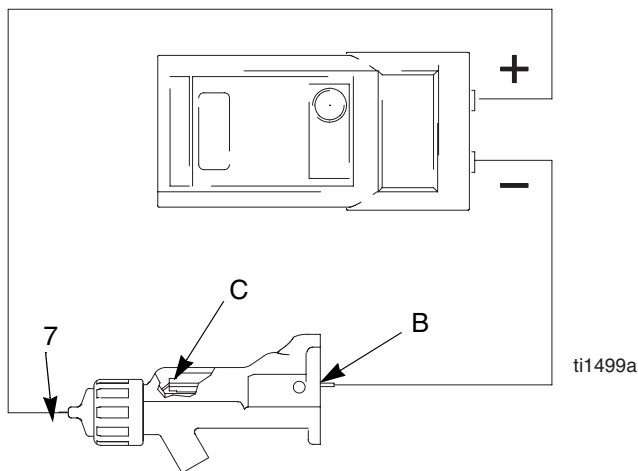

Fig. 17. Test Electrode Resistance
1. Insert a conductive rod (B) into the gun barrel (removed for the power supply test) and against the metal contact (C) in the front of the barrel.
2. Measure the resistance between the conductive rod (B) and the electrode (7). The resistance should be 20-30 megohms. See FIGURE 17.